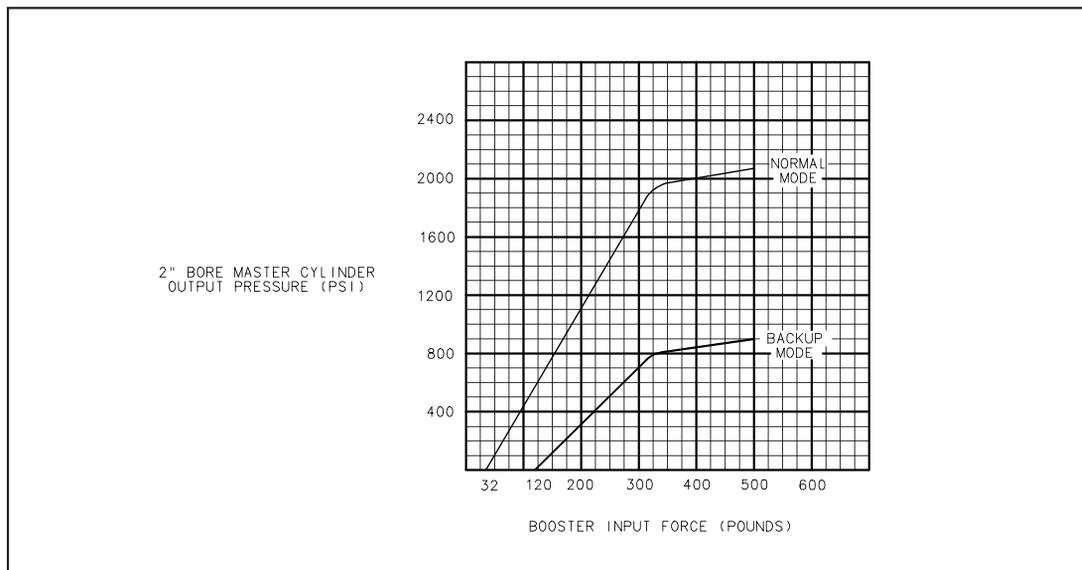

Figure 3 Typical Performance Curve
In the event normal flow from the power source is interrupted, the backup pump provides the power at a reduced rate for stopping. See *Figure 3* for performance curve. Upon flow interruption, the integral flow switch closes, energizing a relay, providing electrical power to the backup pump.
*Figure 3* illustrates the typical relationship of master cylinder pressure and input force of the booster.
1. **Backup Pump:** The Hydro-Max™ hydraulic booster has a backup pump which will provide hydraulic boost at a reduced rate if the normal source of fluid is interrupted (refer to *Figure 3*). The signal for operation of the backup pump comes from the flow switch. If normal flow is interrupted, the flow switch will close and activate the relay, which will turn on the backup pump. The backup pump is available for 12 and 24-volt systems.